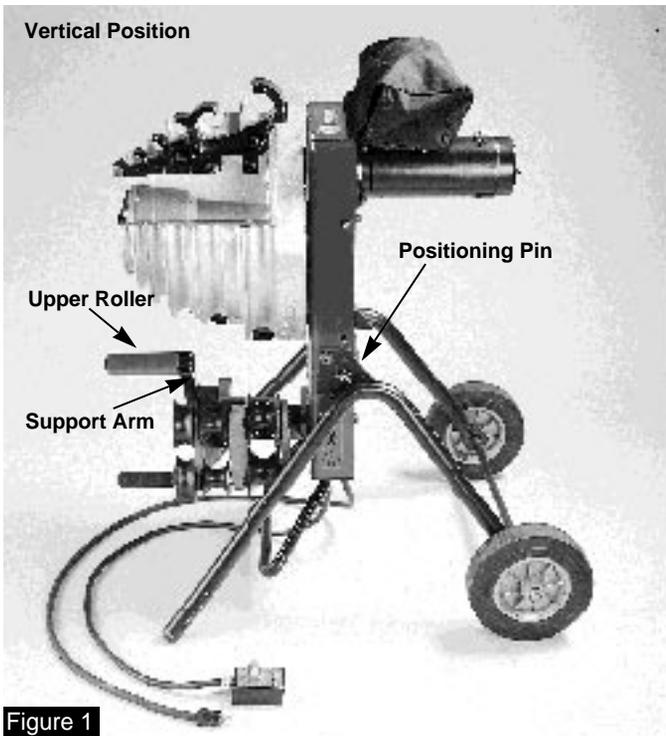

Figure 1
To prevent damage to the bending shoe, do not allow the clamping jaws to strike the upper roller support arm when the shoe is rotating. Position the roller housing against the frame stop. See Figure 1.
1. Position the bender in a level dry area large enough to permit loading and unloading various lengths of conduit. Plug power cord into a 115 volt outlet. Position the frame, either horizontally or vertically, by pulling the spring loaded pin on the side of the bender frame. See Figure 1.